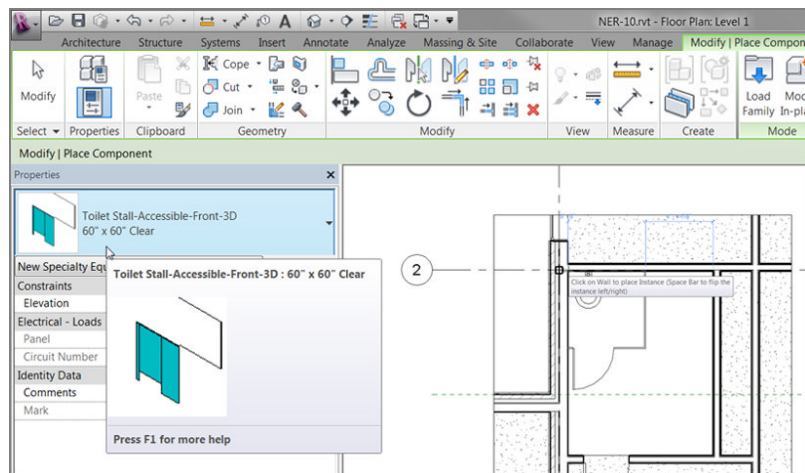

FIGURE 9.37: Placing the accessible stall
5. Pick the corner of the bathroom, as shown in Figure 9.37.